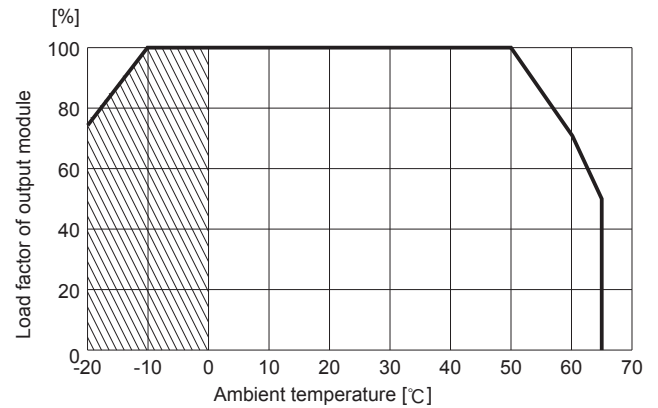

Fig.4.6 Derating curve of output module depend on ambient temperature
- Derating curve of output module depending on ambient temperature is shown in Fig.4.6.